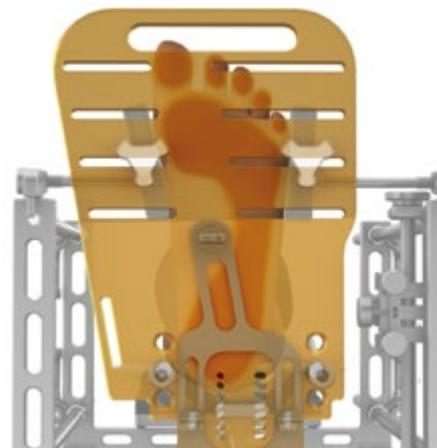

Fig. 21
- A plantar view of the foot should be visible through the Foot Plate (Fig. 21).